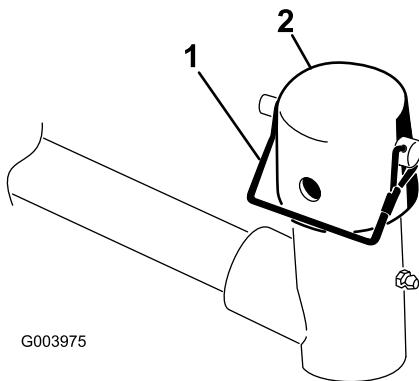

**Figure 5**
- Unplugging the 48 VDC system battery-disconnect jumper (Figure 5).